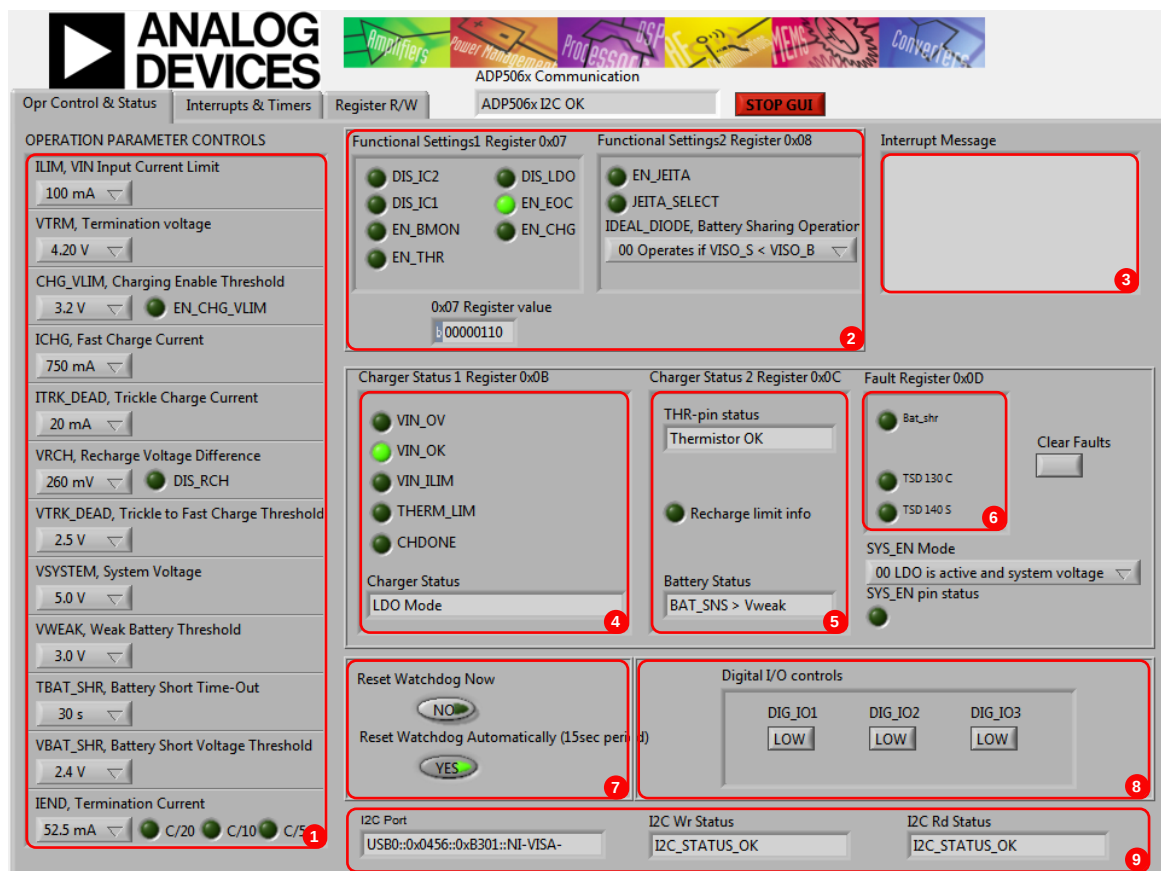
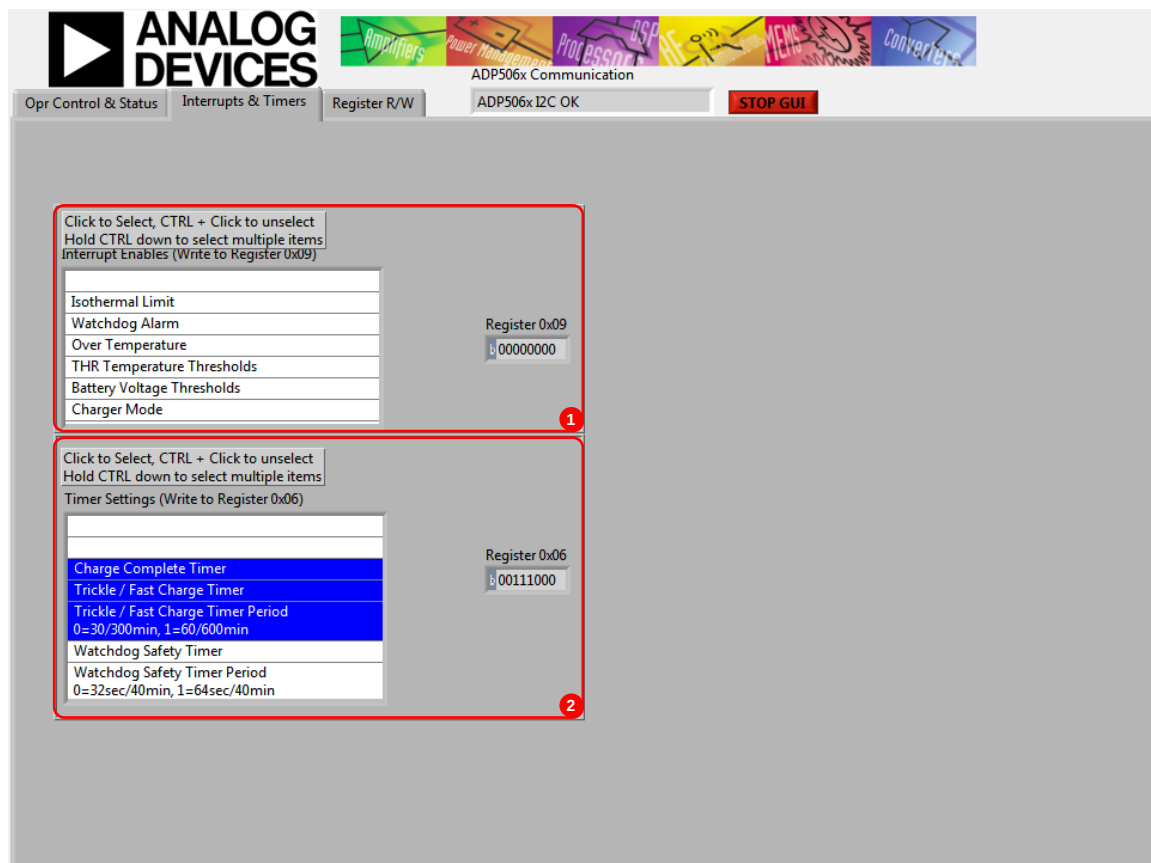

Figure 2. ADP5061 GUI Operation Control and Status Tab
Figure 3. ADP5061 Evaluation Software GUI, **Interrupts & Timers** Tab
The following are the GUI operation controls and status tools (see Figure 2):
VIN must be above 2.5 V in order for the I²C communication of the ADP5061 to start working. The VIN voltage level is monitored, and the indicators are shown in the charger status indicators (see Number 4 in Figure 2). The GUI automatically reads the content of the registers after every 0.3 seconds from the last action and updates the status of the registers on screen.
If there is a problem in the I²C communication, the status indicators show an error message (see Number 9 in Figure 2). When I²C communication is operational, status indicators show I2C_STATUS_OK (see Figure 2).
The **Interrupts & Timers** tab (see Figure 3) in the GUI controls the register settings. Register 0x0A is automatically read after every 0.3 second timeout from the last user action involving the GUI. When a certain interrupt is enabled, and there is a status change in the corresponding function during charging, an interrupt message is shown in the **Opr Control & Status** tab (see Number 3 in Figure 2).
The default settings of the timers are shown in Figure 3. Changing the timer settings can be done by clicking items in the **Timer Settings (Write to Register 0x06)** box.
4. Disable charge complete timer register, Register 0x06, using the GUI (see Figure 3).